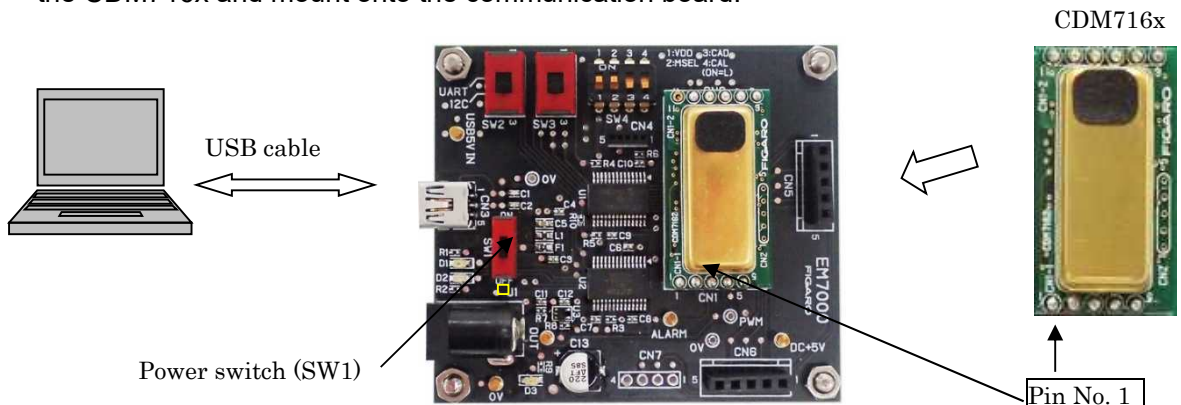

Figure 3 - Attaching CDM716x CO2 Sensor
When mounting a CDM716x, match the pin # of connectors CN1 and CN2 on EM7000 with the corresponding pin # of the CDM716x (Figure 3).
**Caution!!** Before mounting or removing CDM716x, be sure to turn off the power switch (SW1) by setting it to the lower position as shown in Fig. 3.